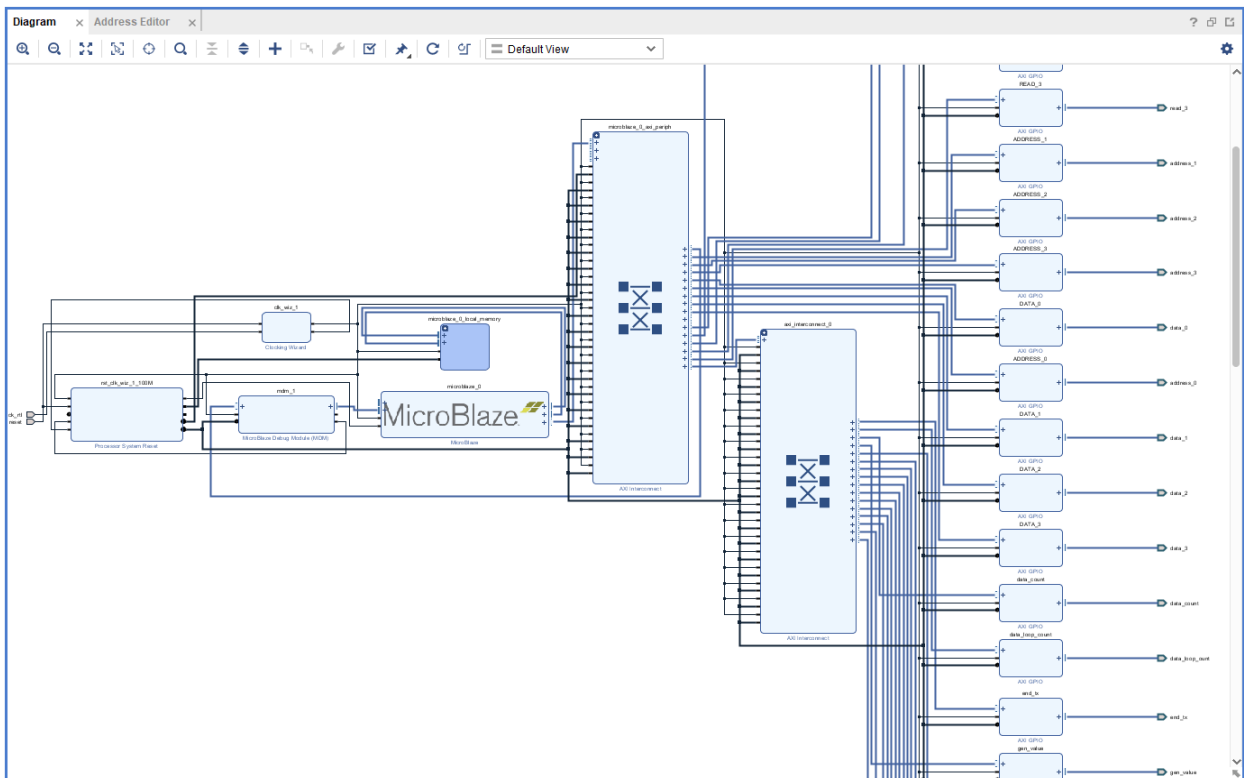

Figure 6: SATA 3.0 Host Controller Block Design Configuration step 3
- After adding IP like Micro blaze, processor system reset, AXI4-interconnect, Micro blaze Debug Module, clocking wizard and GPIO, the required GPIO’s are connected to the Micro blaze by using AXI4-stream interconnect to the block design as per shown in below Figure 6. Micro blaze was configured by as per the SATA design requirements.